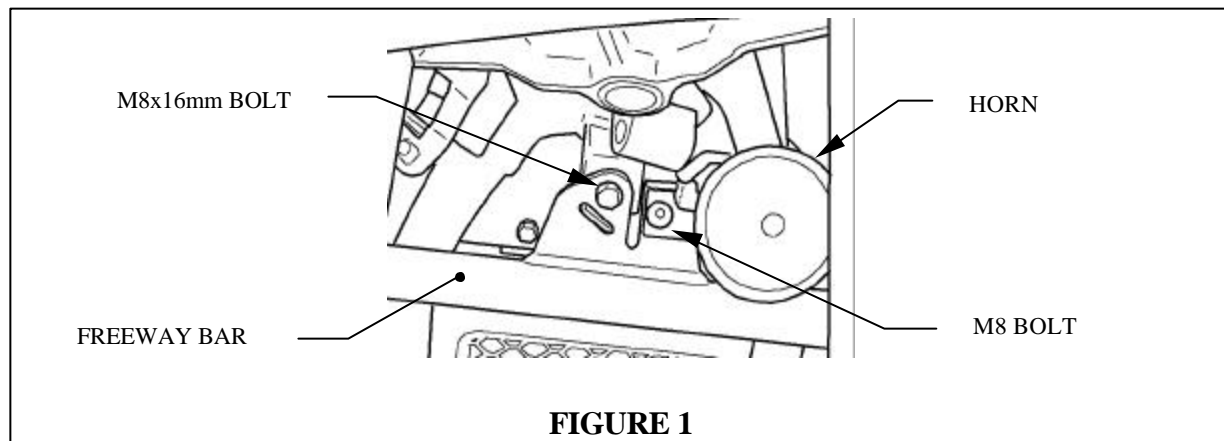

FIGURE 1
5. Install M8 x 16mm bolt provided through upper freeway bar mounting tab and into original horn mount on frame (See figure 1).
7. Install horn to tab on upper left hand side of freeway bar mounting bracket using M8 bolt set aside from step 1, making sure the horn bracket is parallel with the freeway bar and tighten (See figure 1). Check horn wires for proper connection and good working order.